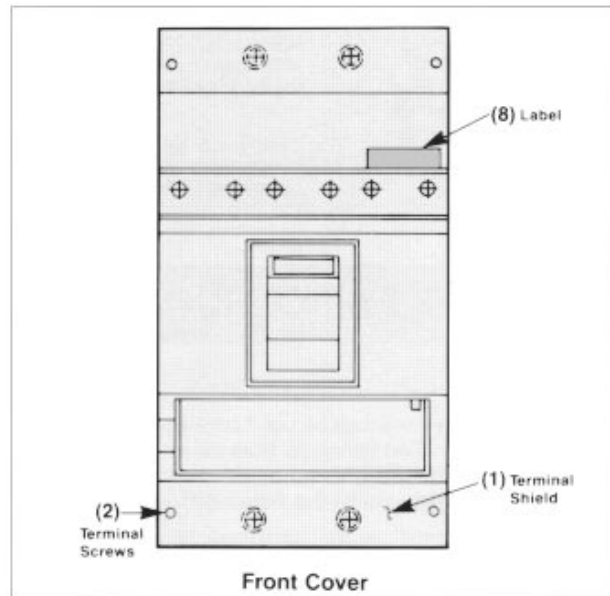
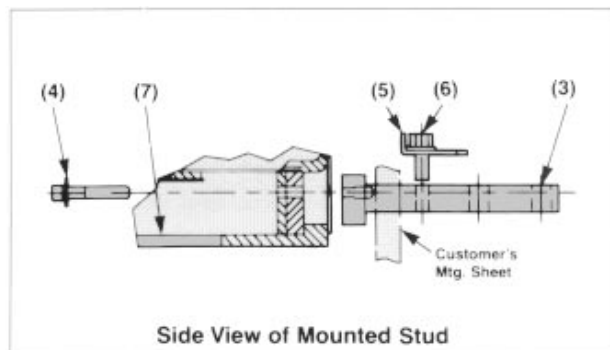

Figure 3
Figure 4
- Remove terminal shield (1) from line and load side of breaker frame. Two #8-32 screws (2) each (Figure 3).
- Attach the connecting studs (3) as shown in Figure 4, to each pole of the circuit breaker with two 5/8-18 hex head cap screws, flatwashers and lockwashers (4). Torque the screws to 72 lb. in.
- Secure the circuit breaker to the panel by attaching each connecting stud with the panel clamp, (5) (Figure 4) hex head bolt, lockwasher and flatwasher (6) supplied. Torque the bolts to 96 in. lb.
- After the breaker is installed, attached to the mounting panel and terminated, retorque each of the 5/8-18 hex head cap screws (4) (Figure 4) to 72 in. lb.
- Insert the end shields (7) into the slots provided at the line and load ends of the breaker (Figure 4).
- Replace the breaker terminal shields (1) on the line and load side of the circuit breaker and secure with four breaker terminal shield screws (2). Tighten to 12 in. lb.
- Affix label (this device is equipped with rear connecting studs) (8J) to the front of the circuit breaker (Figure 3).
- Attach the rear connecting studs to the mounting template using the 5/16-18 hex head cap screws (4) provided (Figure 4). Note that the rear strap mounting pads are not symmetrical. The studs must be mounted with the orientation (Figure 4).
- Secure the assembly to the panel by attaching each connecting stud with the panel clamp (5) hex head bolt, lockwasher and flat washer (6) supplied. Torque to 96 in. lb. (Figure 4).
- G. Mount the circuit breaker by positioning it over the rear busbar mounting pads. Attach each pole (Line and Load) of the circuit breaker to the connecting busbars with the two 5/16-18 hex head cap screws, flatwashers and lockwashers (4) (Figure 4). Torque each screw to 72 in. lb.
- H. Insert the end shields (7) into the slots provided at the line and load ends of the breaker (Figure 4).
- I. Replace the breaker terminal shields, (1) on the line and load side of the circuit breaker and secure with four breaker terminal shield screws (2). Tighten to 12 in. lb. (Figure 3).
- J. Affix label (8) (This device is equipped with rear connecting studs) to the front of the circuit breaker (Figure 3).